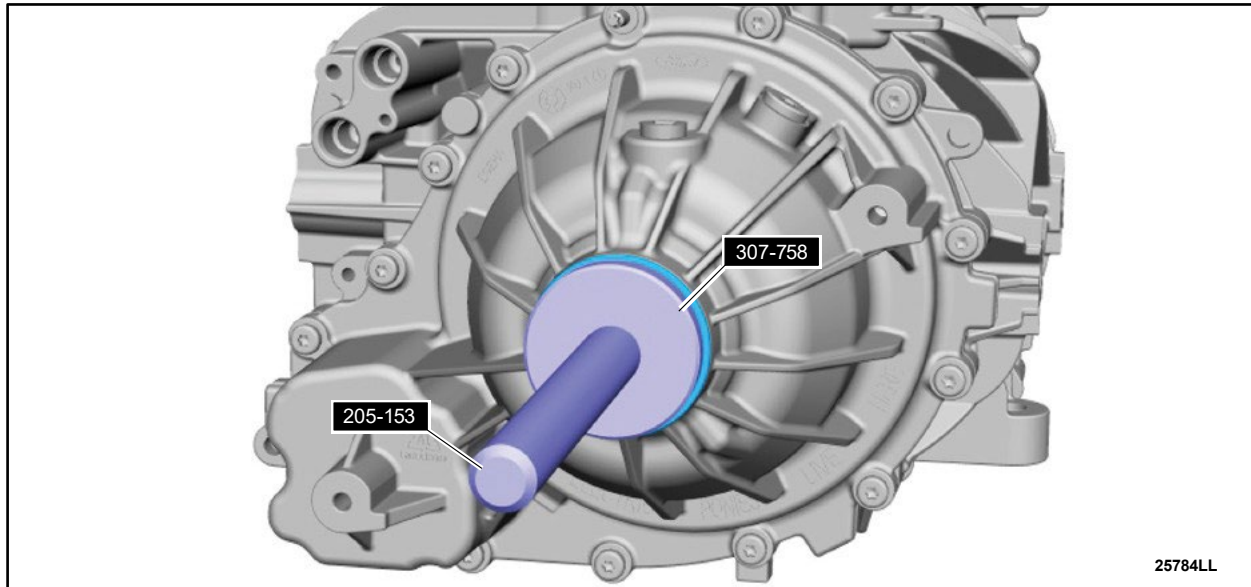

FIGURE 34
37. Using the special tools, install a *new* LH halfshaft seal. See Figure 34.